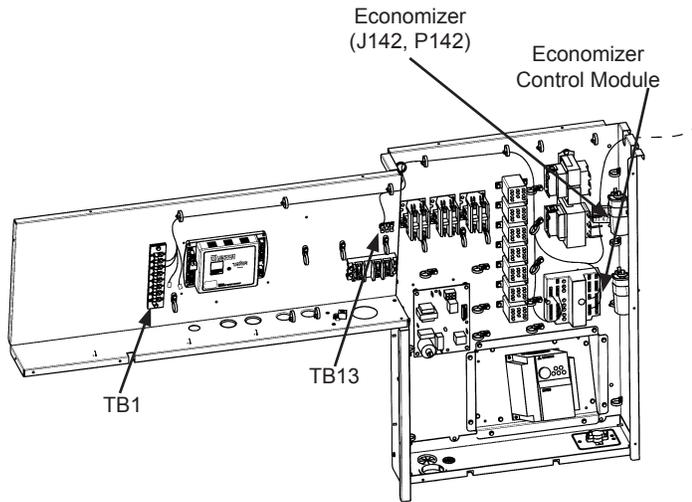

Figure 9 - HVAC Control Box
1. The economizer control module, relay and harness are located next to actuator for shipping. Relocate the control module and relay to the unit control box, see Fig. 9.